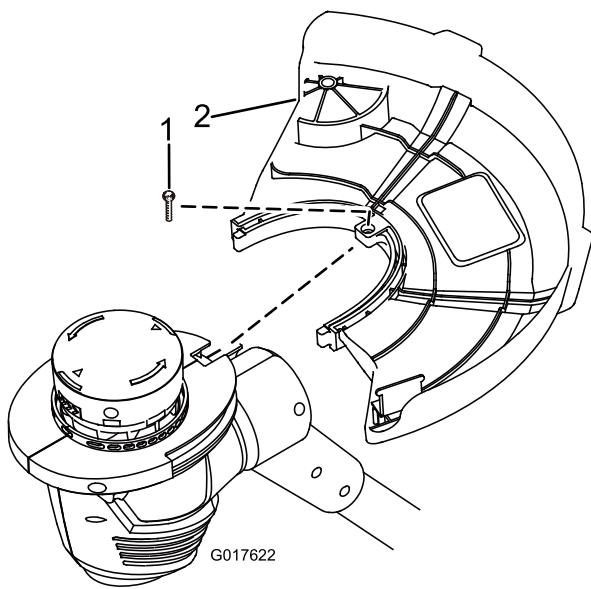

Figure 3
1. Slide the guard onto the trimmer base as shown in Figure 3.